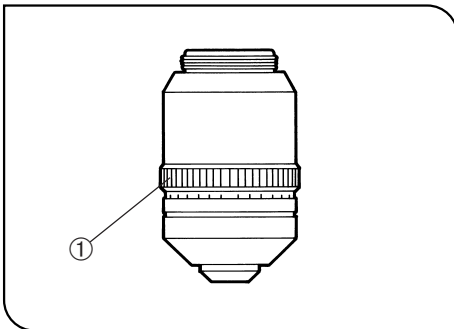

Fig. 37
- If the cover glass thickness is known, set the correction collar ① to that value. (Fig. 37)
- If the cover glass thickness is unknown, adjust the correction collar ① and focus adjustment knob alternately until the positioning with the highest resolution is obtained.